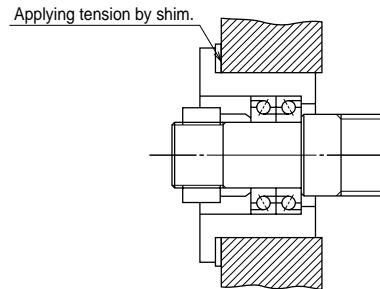

Fig. II-1-2 Bearing structure to provide pre-tension
③ Avoid effects of temperature rise on positioning
- Pull screw shaft in the axial direction at time of installation (Fig. II-1-2).
Fig. II-1-2 shows the bearing support structure in such occasion.